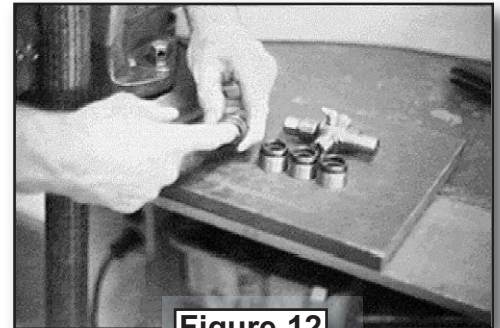

Figure 12
3. Remove the bearing cups from the new crosses and apply grease to the needle rollers in the bearing cups. The grease is used to hold the needle rollers in the bearing cups during installation. Use your finger to push the grease into the needle rollers and to push the needles out against the bearing cup. (See Figure 12)